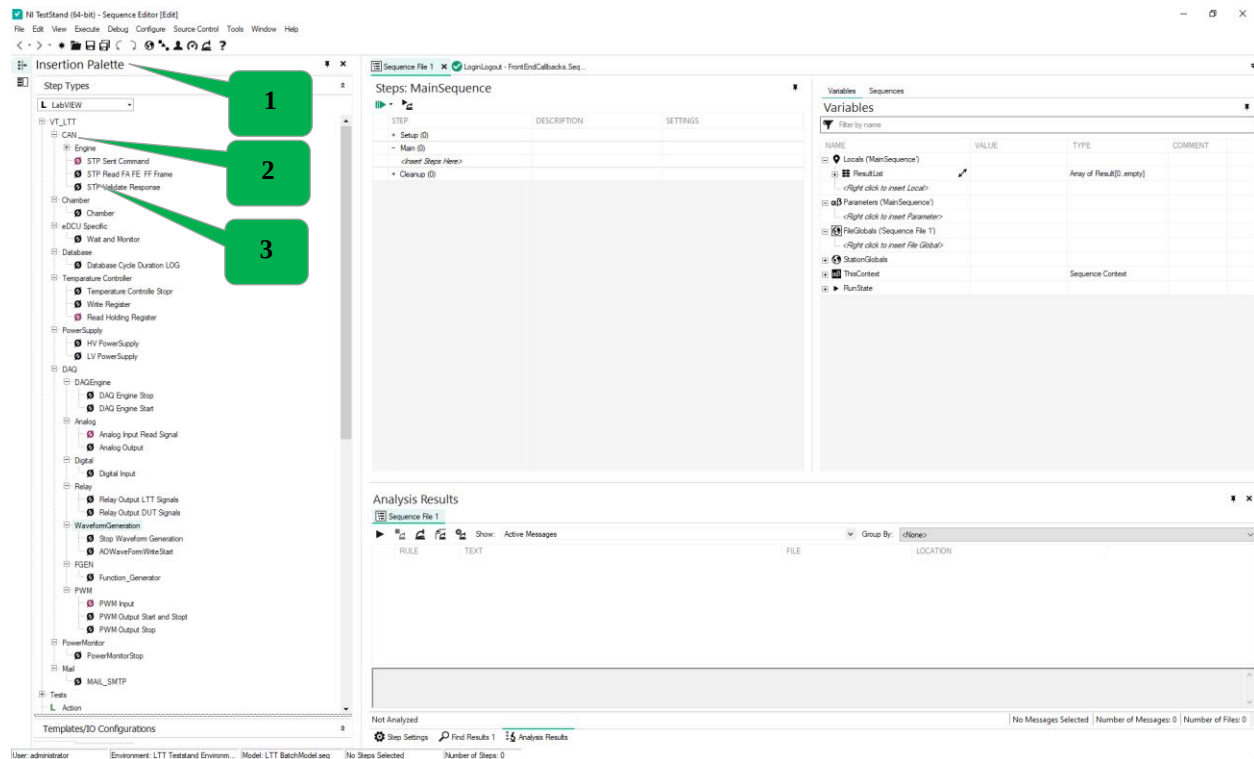

Figure 89: List of Custom step types of view
- 1) The screen displaying the **TestStand Custom Step Types Insertion Palette** is shown in **Figure 89** below.